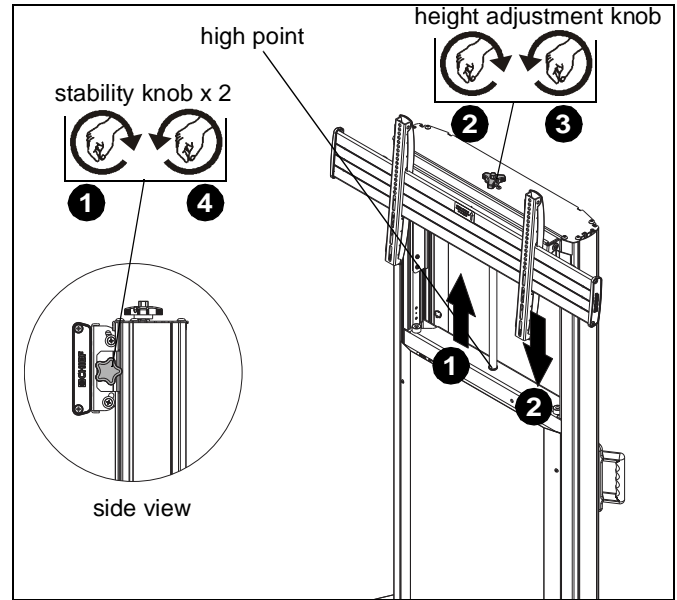

Figure 21
1. Loosen two stability knobs on either side of head assembly. (See Figure 21)
2. Turn height adjustment knob clockwise to raise display. (See Figure 21)
3. Turn height adjustment knob counterclockwise to lower display. (See Figure 21)
**WARNING:** Do not attempt to raise or lower the adjustment carriage beyond its upper or lower limit. High and low points are shown in Figures 21 and 22.
4. Tighten two stability knobs on either side of head assembly. (See Figure 21)